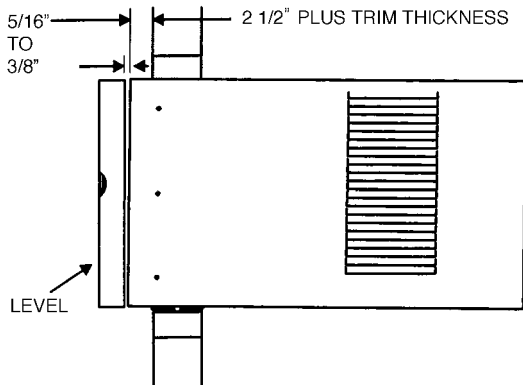

Fig. 25 – Cabinet Location in Wall
13. Slide the empty cabinet into the wall opening and into wooden frame. Approximately 2-1/2" of the cabinet should be in the room. The rest of the cabinet should be positioned through and outside the wall. (See Fig. 25.) Maintain proper slope for condensate drain operation. Bottom rail should be resting firmly on bottom board of wooden frame.